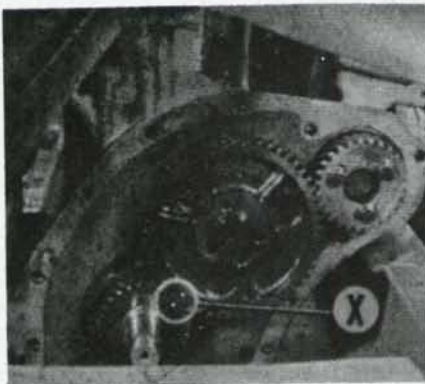

Fig. AC56—The single punch marked tooth space on the camshaft gear should be meshed with the single punch marked tooth on the crankshaft gear as shown at (X).
143A. Valves are properly timed when timing marks on camshaft gear and crankshaft gear are in register. The single punch marked tooth space on the camshaft gear should be meshed with the single punch marked tooth on the crankshaft gear, as shown at (X) in Fig. AC56.
To facilitate installation of a new crankshaft gear, boil the gear in oil for a period of 15 minutes prior to installation. When installing the camshaft gear, mesh the single punch marked camshaft gear tooth space with the single punch marked crankshaft gear tooth as shown in Fig. AC56.
When installing the camshaft, reverse the removal procedure and make certain that the valve timing marks are in register as shown in Fig. AC56. Caution: Make certain that the drilled camshaft thrust plate retaining cap screw is installed in the lower hole.